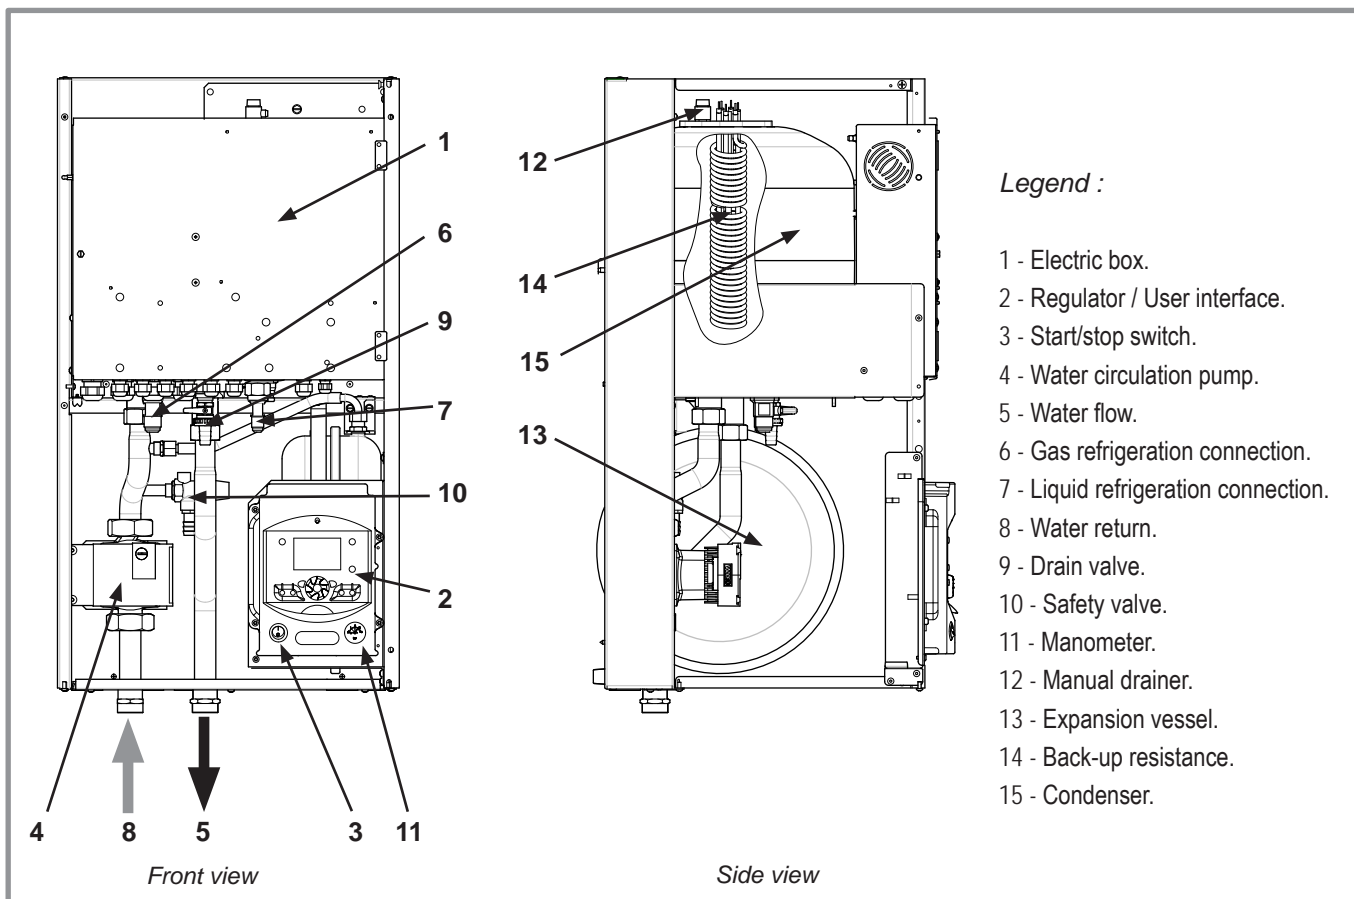

figure 7 - Hydraulic unit components
- In the condenser (ref. 15, figure 7, page 10) :